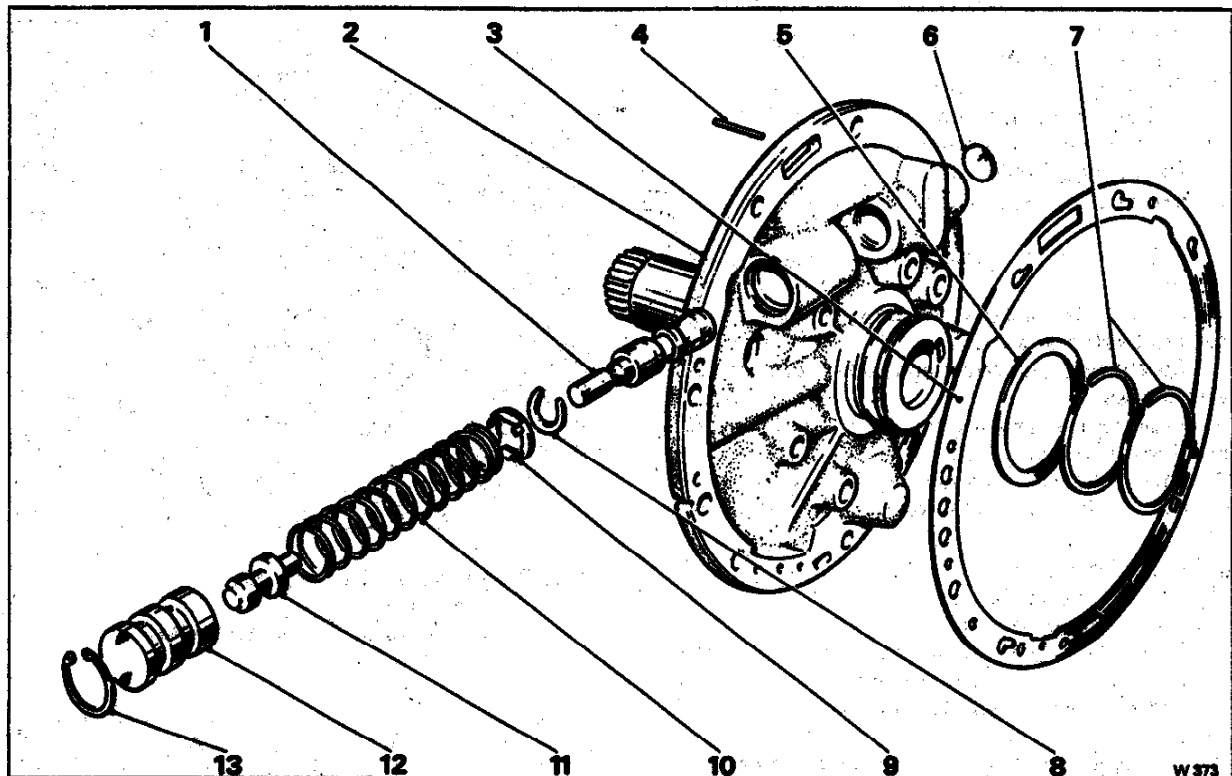

Fig. T84 Pump cover - exploded
2. Fit the pressure regulator spring retainer, spacer or spacers (if fitted) and spring into the pressure regulator bore (see Fig. T84).